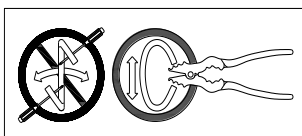

Fig. 1
### HANGING THE FIXTURE (Fig.1)
### COMPLETING THE INSTALLATION (Fig. 1)
**Note: Illustration (Fig.1) (Fig.2) on this manual is for installation purposes only. It may or may not be identical to the fixture purchased.**